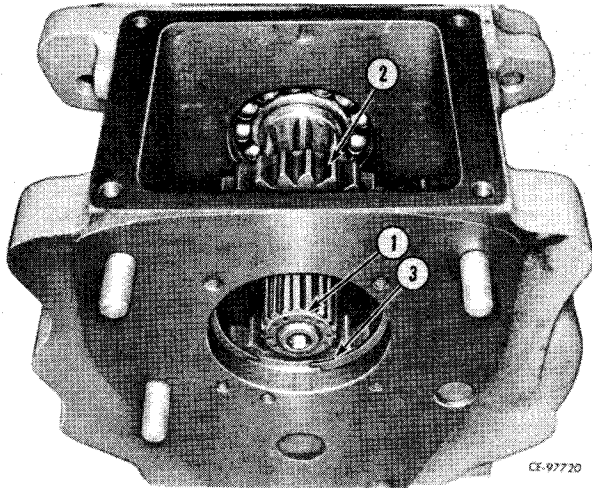

Figure 4-25
Remove roller bearing (1, Fig. 4-25), ring spacer and main shaft reverse gear (2). Remove snap ring (3) from reverse housing.